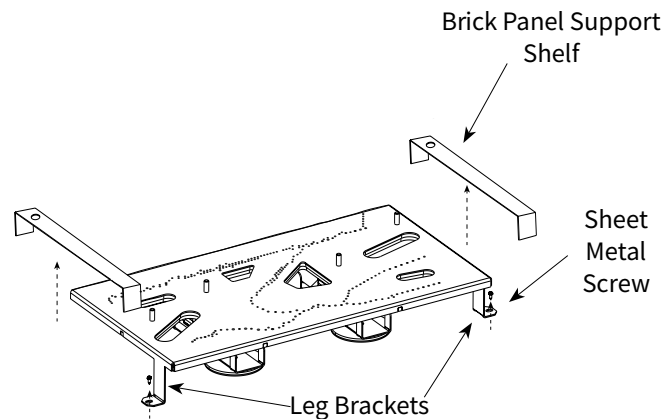

Figure 6.2. Remove the Leg Bracket screws. Pull the Burner assembly forward and up to disengage it from firebox.
5. Lift the Brick Panel Support Shelves from the firebox floor to access and remove two #8x 1/2" sheet metal screws that secure the two Burner Brackets to the floor. See fig. 6.2.
6. Grasp the burner at the sides and pull the assembly forward and up to disengage it from the burner injectors. Tilt the assembly to fit through the door opening, being careful to avoid contact with enamel surfaces. See fig 6.2.